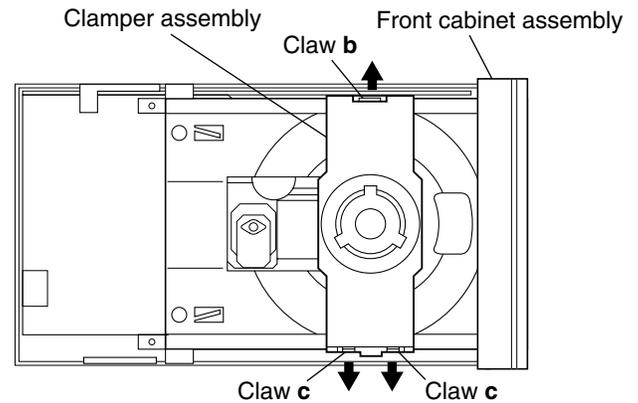

Fig.8
■ Replacing the CD pickup unit (See Figs. 8 to 11.)
2. Remove the top cabinet. (See Figs.8 and 9 "Main body section" on page 1-8.)
3. From the top side of the main body, open up the claws **b** and **c** on the left and right of the clamber assembly in the direction of the arrows and lift the assembly to remove it. (See Fig.8.)